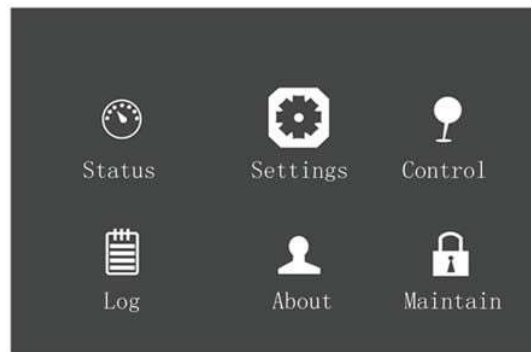

Figure 5-18 Main menu screen
1. Access the main menu screen and press the or key to switch the cursor to select 'Settings', then press the key to confirm. See Figure 5-18.